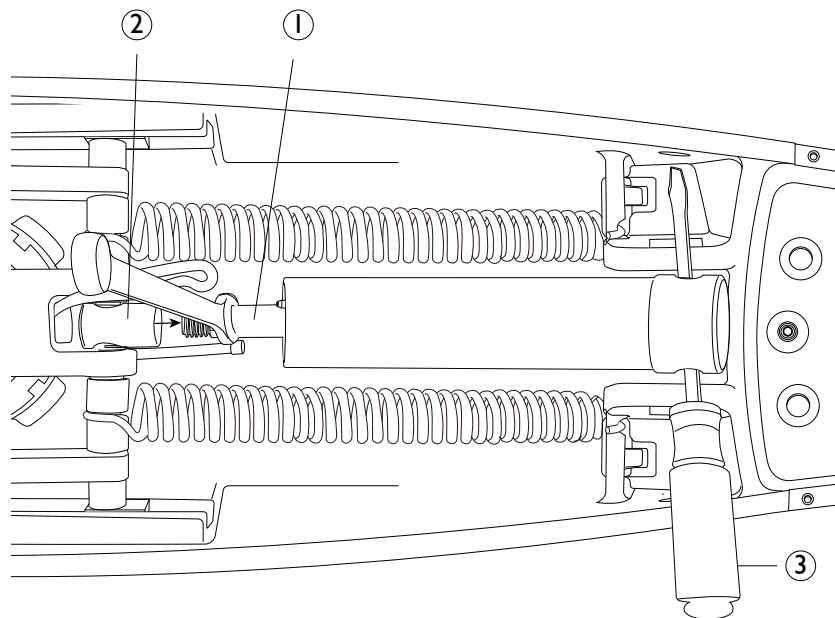

Figure 10. Disconnecting the hydraulic piston from the pivot cap
- 6** Use a 9/16" wrench to disconnect the hydraulic piston (Figure 10, item 1) from the pivot cap (item 2).
**NOTE:** It may be helpful to brace the cylinder using a large screwdriver (item 3).